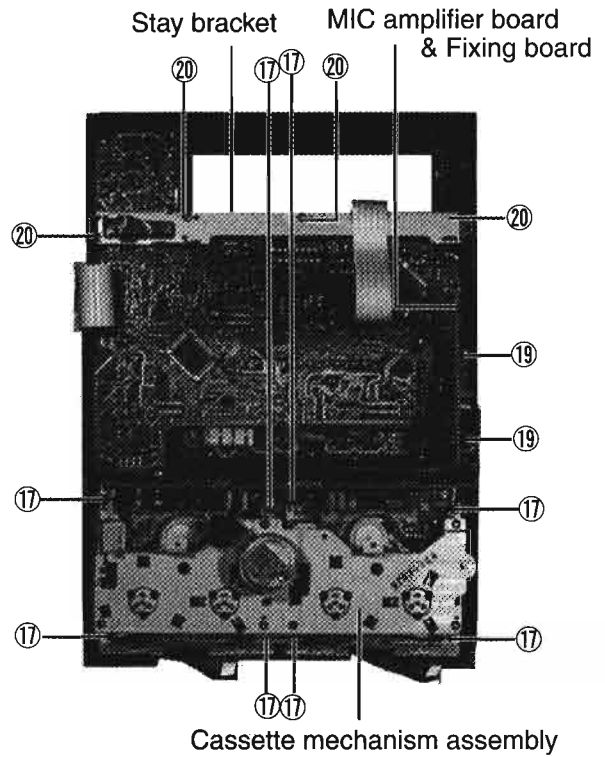

Fig. 15
(See Figs 15, 16)**
5. Remove the eight screws ⑰ fastening the cassette mechanism assembly from the inside of the front panel assembly. (See Fig.15)
6. Remove the two screws ⑲ fastening the fixing board, take out the MIC amplifier board. (See Fig.15)
6. Remove the four screws ⑳ fastening the stay bracket from the inside of the front panel assembly. (See Fig.15)